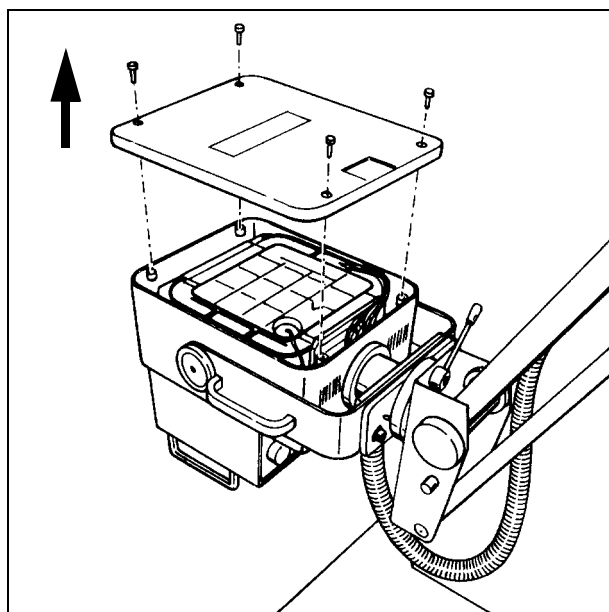

Fig. 2
- Remove the 4 Allen screws (3 mm key size) from the lid of the single tank and take off the lid (Fig. 2).